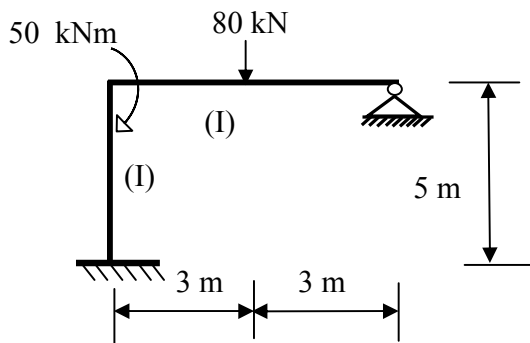

Fig.3 Q-4
- Q-4 Analyse a plane frame as shown in the fig.3 using stiffness member approach and find displacements only. 14